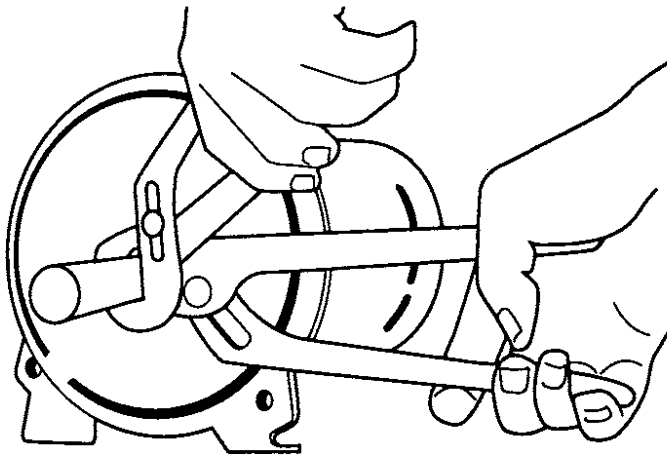

Figure 17 - Remove Venturi
4. On 1/2 HP models, unscrew venturi tube from impeller. On 3/4 and 1 HP models, venturi tube is screwed into the pump case (Figure 17.)